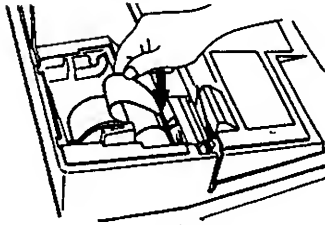

Fig. 8
5. Insert the paper end into the journal inlet while holding the [JF] key pushed down (Fig. 8).